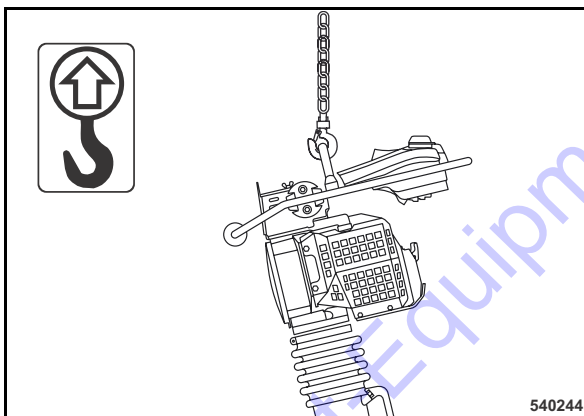

Fig. 30
- For loading the machine attach the lifting gear only to the lifting eye provided for this purpose (Fig. 30).